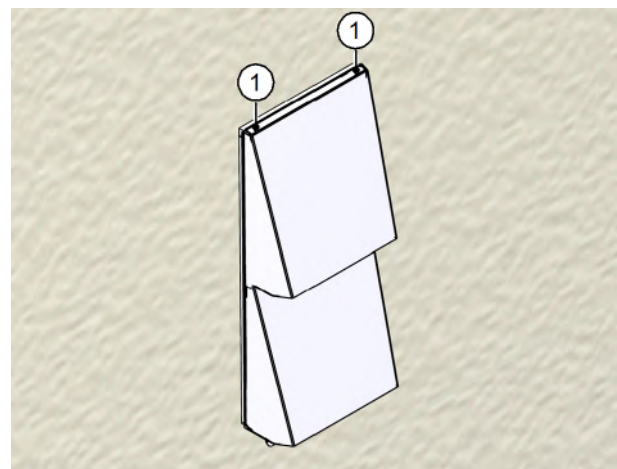

Fig. 11: Outer wall terminal installed
- ▶ Use the two cross-head screws to fix the cover (item 1 in Fig. 11).